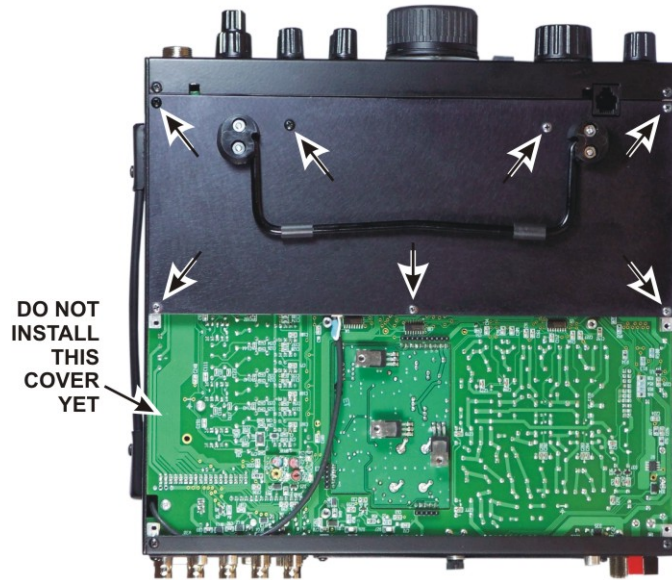

Figure 90. Installing Bottom Cover Forward Section.
□ Turn the K3 over so the bottom is exposed. Position the forward section of the bottom cover with the feet and bail toward the front as shown in Figure 90. Attach the cover with seven 3/16" (4.8 mm) black pan head screws at the positions shown. Do not use washers.